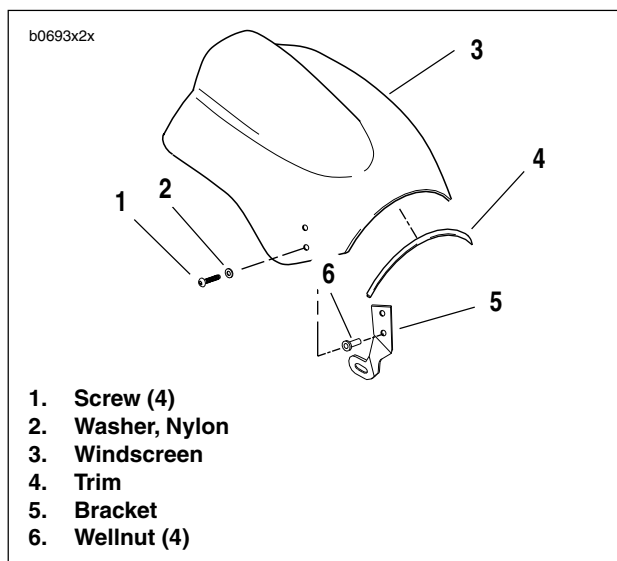

Figure 2-111. Windscreen
2. See Figure 2-111. If necessary, remove trim (4).
2. See Figure 2-111. If removed install trim (4).